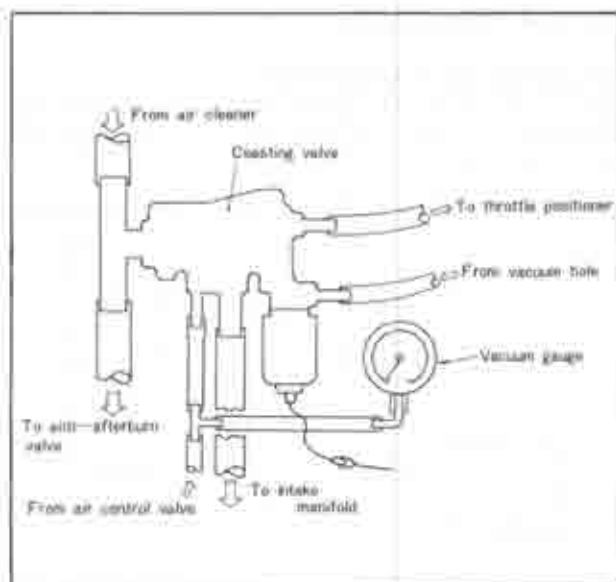

Fig. 1A-51 Checking of coasting valve
1. Attach the vacuum gauge as in Fig. 1A-51.